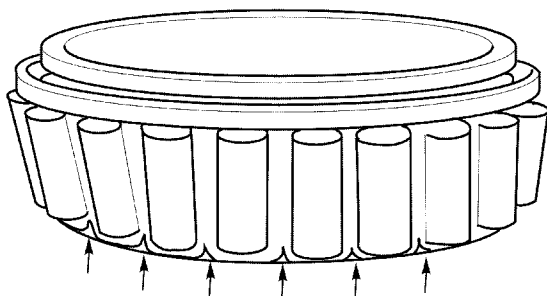

Figure 7.
- (3) Bright rubbing marks on the dark phosphate surface of the bearing cage. Refer to Figure 7.